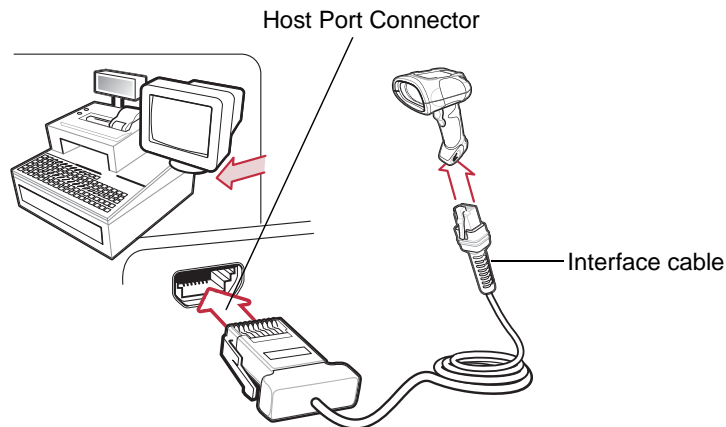

Figure 8-1 IBM Direct Connection
- ✓ **NOTE** Interface cables vary depending on configuration. The connectors illustrated in Figure 8-1 are examples only. The connectors may be different than those illustrated, but the steps to connect the digital scanner are the same.